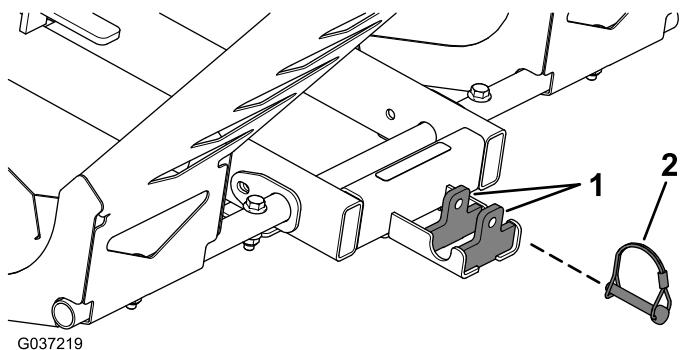

Figure 15
3. Align the kickstand on the spreader between the kickstand-retention tabs on the spreader-mount frame (Figure 15).
4. Secure the spreader to the spreader-mount frame using a snap pin (Figure 15).